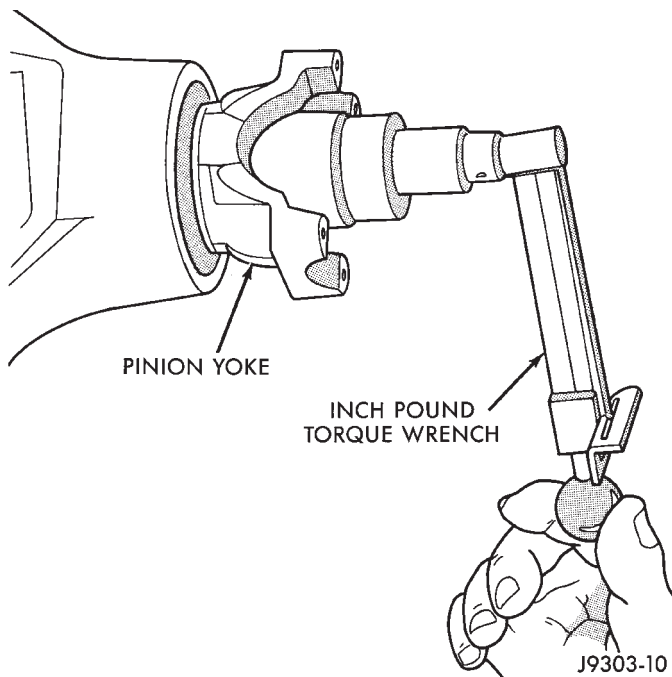

Fig. 59 Check Pinion Gear Rotating Torque
(15) Slowly tighten the nut in 6.8 N·m (5 ft. lbs.) increments until the required rotating torque is achieved. Measure the rotating torque frequently to avoid over crushing the collapsible spacer (Fig. 59).
(16) Rotate the pinion a minimum of ten times. Verify that the pinion rotates smoothly. Check bearing rotating torque with an inch pound torque wrench (Fig. 59). The torque necessary to rotate the pinion gear should be: